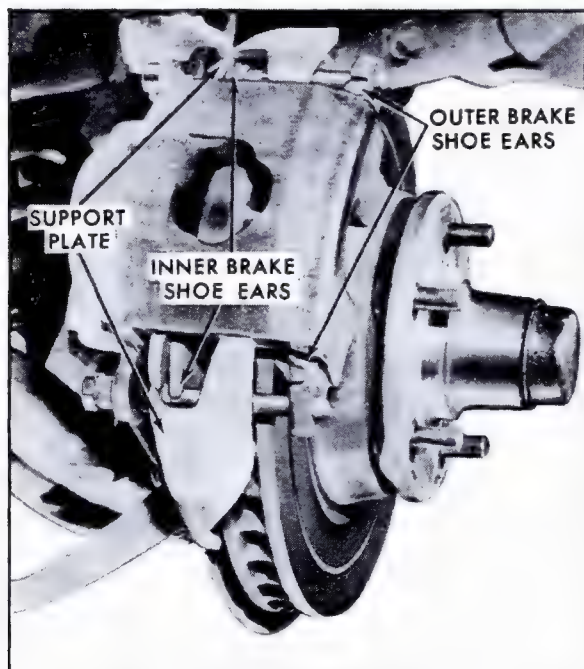

Fig. 5-11 Sliding Caliper Disc Brake
6. Remove two bolts which hold caliper to support plate, Fig. 5-11.
22. Start either bolt into the inboard ear of the caliper and into the support plate. At this point it is necessary to be sure that the bolt passes under the retaining ear on the inboard shoe to maintain the shoe in position in the caliper, Fig. 5-11.
7. Start either bolt into the inboard ear of caliper and into the support plate. At this point it is necessary to be sure that bolt passes under the retaining ear on the inboard shoe to maintain the shoe in position in the caliper, Fig. 5-11.